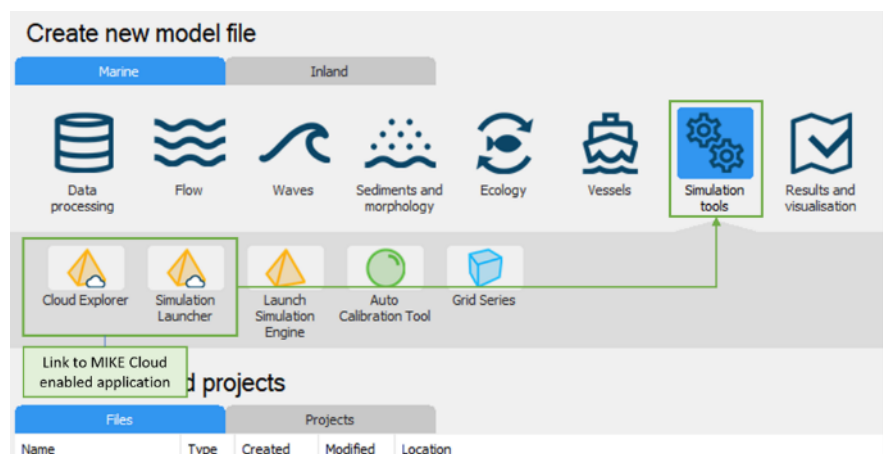
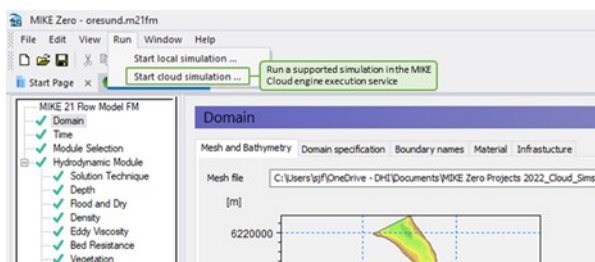

Figure 5.7 Accessing the Cloud Explorer and Simulation Launcher from the Start Page
Figure 5.8 Accessing Simulation Launcher from Run menus
- **Simulation Launcher:** a simple to use, intuitive tool that allows you to manage your previous and current cloud simulations, as well as starting a new cloud simulation with only a few clicks. For simplicity, some of the options for new simulations are pre-defined (e.g., it is only possible to run a simulation in a top MIKE Cloud project, simulations are always run using the same engine version as the one in your MIKE Zero installation). Simulation Launcher can be accessed from a link on the MIKE Zero Start Page, and from the Run menus of individual setup editors (see see Figure 5.7 and Figure 5.8).
- **Cloud Explorer:** a tool that allows you to manage your data (projects and files) stored in MIKE Cloud, as well as to manage your cloud simulations. With Cloud Explorer you have access to all the advanced settings when starting new cloud simulations (e.g., you can run simulations in any MIKE Cloud project that you have access to, have access to older engine versions). Cloud Explorer can be accessed from the link on the MIKE Zero Start Page (see Figure 5.7).